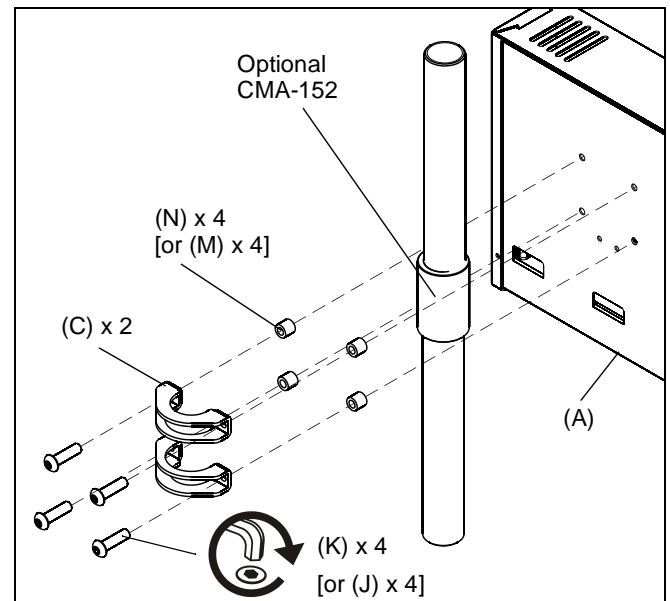

Figure 3
1. Attach CMA-170 to projector pipe mount using two pipe brackets (C), four 5/16-18 x 1-1/8" button head cap screws (K) and nylon spacers (N). (See Figure 3)
NOTE: If NOT using the optional CMA-152, instead use four 5/16-18 x 7/8" button head cap screws (J) and nylon spacers (M). (See Figure 3)